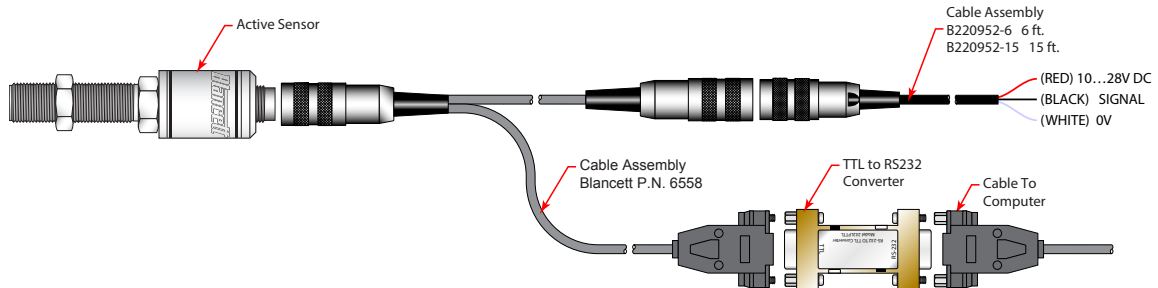

Figure 8: 6558 programming cable connections
**NOTE:** The TTL-to-RS232 converter may be as shown in Figure 8 or it may be a black molded model.
2. Attach the programming cable (*Figure 8*) to the active sensor through a Com port on your PC.